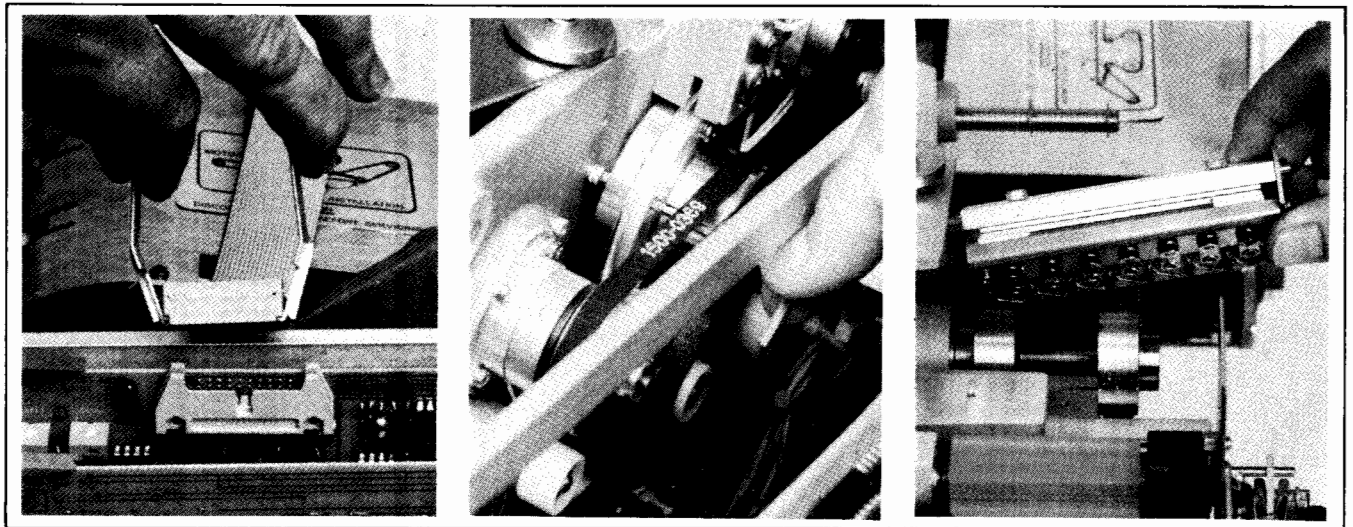

Figure 5-5. Read Head Assembly Removal/Replacement
- c. Remove two set screws located on left casting. See Figure 5-5. (If Encoder, Option 003, installed, remove second set screw through provided hole in pulley.)
- d. Disconnect cable assembly from A1 Board. Use cable extractor (or small screwdriver) to prevent damage to connector and cable. See Figure 5-5.
- e. Remove read head assembly (pull up and out). See Figure 5-5.